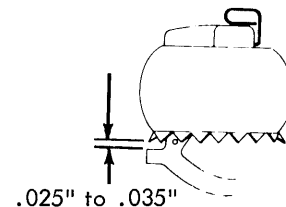

FIGURE 102. Skirt Clearance
- b. Adjust the detent actuating lever support front or rear (under its locking screw) so that the rotate detent will clear the teeth on the type head skirt by .025" to .035" when the cycle shaft is at rest (Fig. 102). This clearance should be observed when the type head is manually tilted to a two tilt position since the two tilt position provides the rotate detent with the least amount of motion.